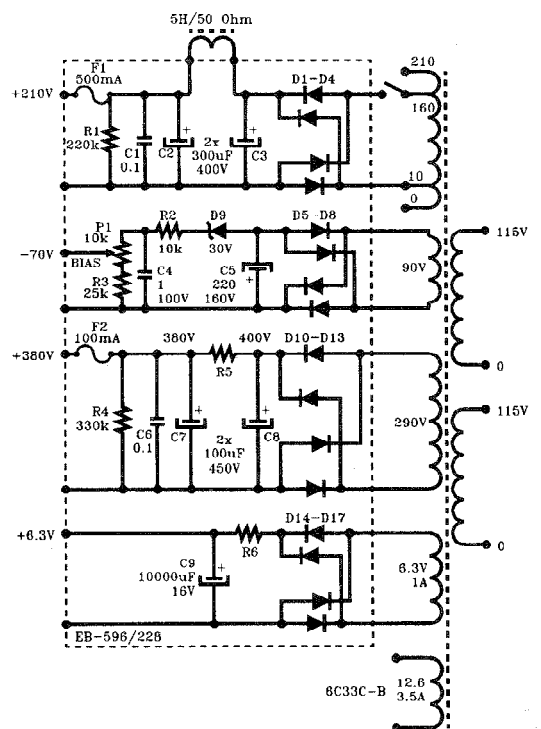

FIGURE 5: Power-supply schematic.
- Optional: 1 pair of EB-596/228 power-supply boards (as shown in Fig. 5)